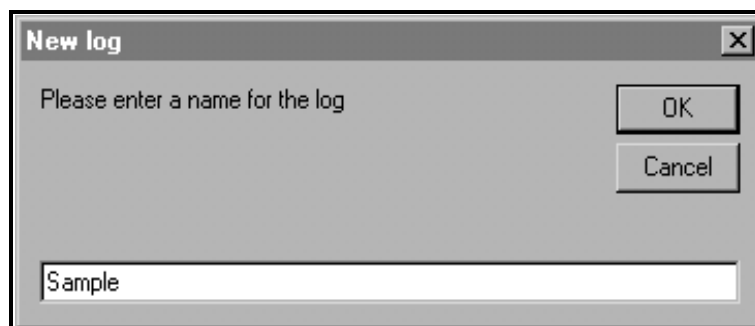

Figure 17: Log Name Dialog Box
5. Enter a log *file name* ("*Sample*" in this case) in the dialog box shown in Figure 17. Click on the [OK] option button.